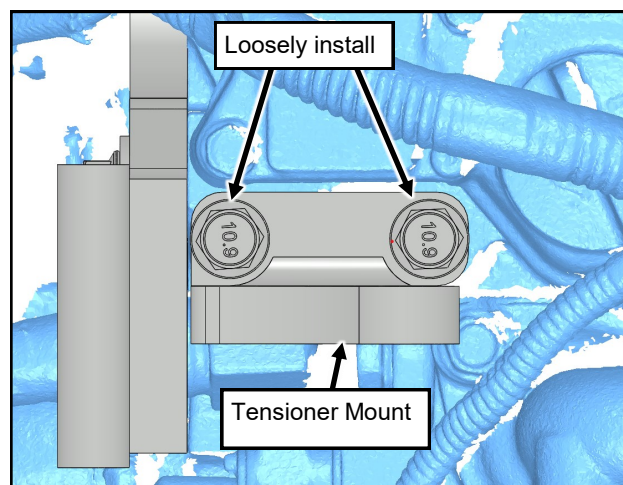

Fig. 1.39 (Loosely install M8x1.25 x 50 screws)
- 1.39 With 5/16" washers and supplied red Loctite, loosely thread in two M8x1.25 x 50 hex screws into the tensioner mount holes shown in Figure 1.39.